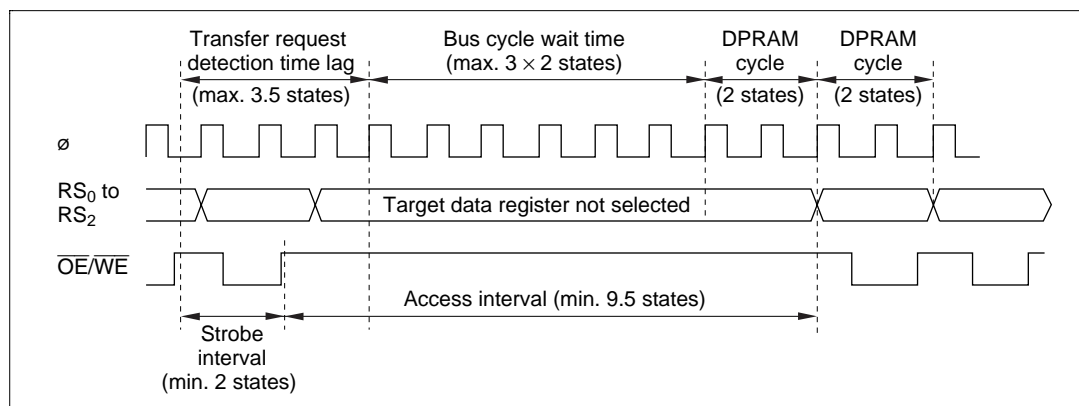

Figure 5.31 Bound Buffer Mode Access Interval
(2) In DPRAM bound buffer mode, the master CPU may access the PBI by byte access or word access. In word access, the minimum detectable interval (strobe interval) between the rising edges of \overline{OE} and \overline{WE} of two bytes is two states.
(3) If input pins RS_2 to RS_0 specify an unusable DPRAM data register and if pin \overline{CS} is low, then pin \overline{WRQ} also goes low. When pin \overline{WRQ} is not used and the access interval is the time between the rising edge of \overline{OE} and \overline{WE} and the next confirmation of RS_2 to RS_0 and \overline{CS} input, the following intervals become necessary.
- Bound buffer mode access interval: 9.5 states (see figure 5.31)